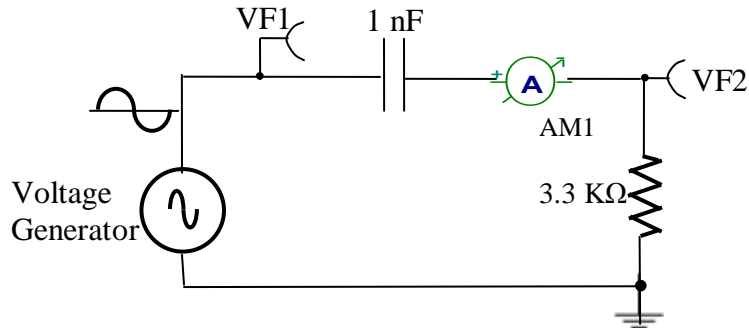

Fig. 2 Phase shift network one CR stage
The first simulation described in the procedure below shows this with reference to Fig. 2. The second simulation shows how with the addition of a second CR stage to the CR circuit, an additional phase shift (lead) is produced.
1. Open the Tina Schematics Editor page. Click the “Basic” tab and pick and place a resistor, capacitor and a voltage generator in convenient locations following the schematic in Fig. 2. (To rid the cursor of the component after placing it on the editor page, click anywhere on the page else, right click and select “Cancel Mode”).
Then, place the ground symbol from the Basic tab and two Voltage pins (VF1 and VF2) at the input and the output from the Meters tab according to the schematic in Fig. 2.
2. Double-click the resistor and capacitor in succession and set the value of each component in the component dialog box according to the values in the schematic of Fig. **Note:** For megohms, use “M”, for milliohms use “m”, for microfarad use “u” and for nanofarad use “n”. Connect the components using the Wire symbol in the menu bar, according to the schematic in Fig. 2.